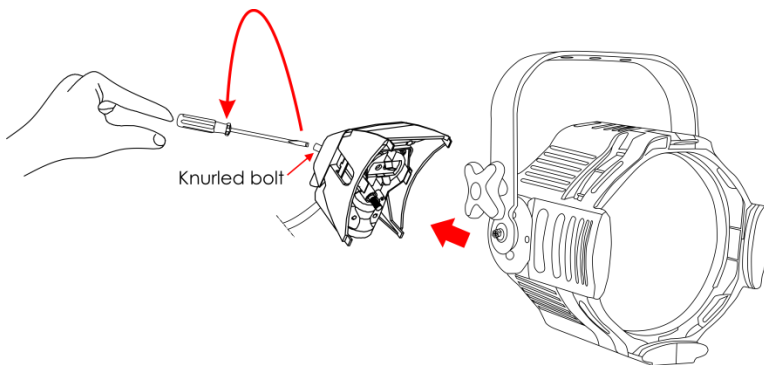

Fig. 04
- 02) Loosen the knurled bolt and remove the lamp housing (Fig. 04).